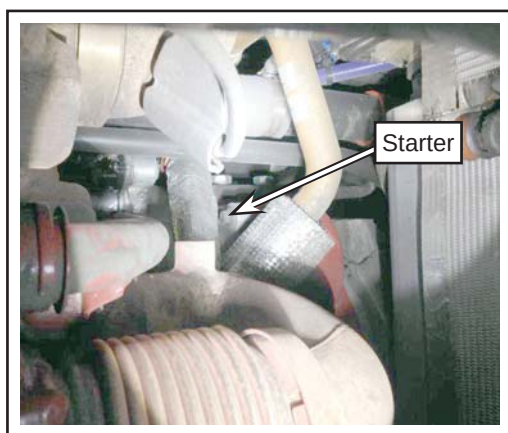

Figure 1 - Engine Starter Location
- 1.3. Locate the engine starter, on the street side of the engine. See Figure 1.